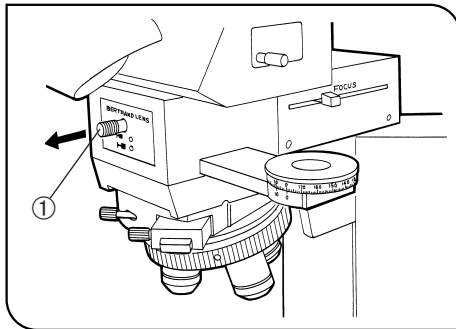

Fig. 25
2. Pull out the Bertrand lens knob ① to the OUT (○) position. (Fig. 25)
5. Push in the Bertrand lens knob ① to the IN (●) position for conoscopic observation.